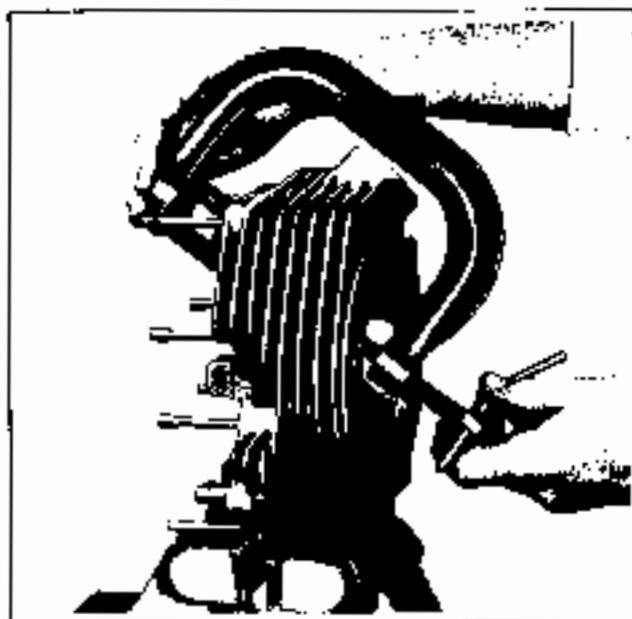

Figure 3-4. Compressing Valve Spring
Compress valve springs using Valve Spring Compressor, Part No. 96600-26, (see Figure 3-91) and remove valve keys (23) from ends of valve stems as shown in Figure 3-4. Mark keys to identify them with their respective valves. Remove valve spring collars (24 and 27), springs (25 and 26) and valves (28). It is customary to reassemble valves in same cylinder head from which they were removed; therefore, before removing, mark them in some manner to identify them with front and rear cylinder head.